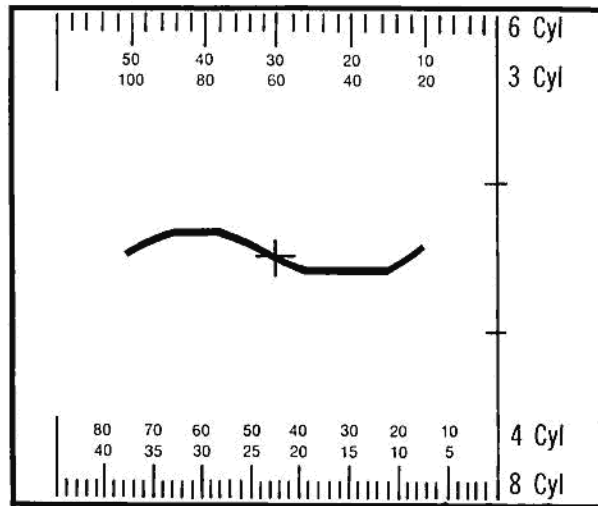

Figure 2
- () Adjust the VERT POS and HORIZ POS controls to place the pattern near the center of the CRT screen as shown in Figure 2. NOTE: The pattern will not fill the screen and it may be tilted at this time.